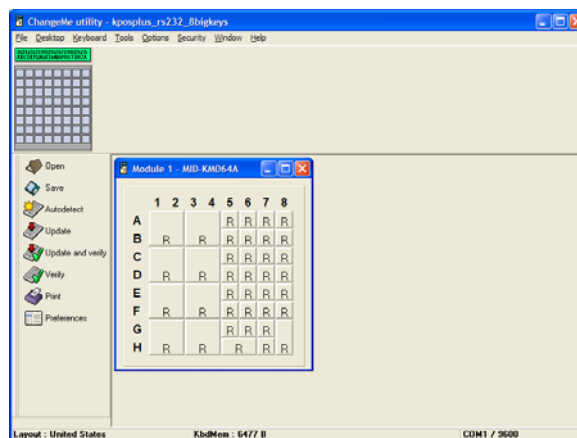

Figure 3-5
13. Click **OK**. Your screen will show the configuration of the mini POS keyboard as in Figure 3-5.
- 3) a mini POS keyboard layout with 8 large and 12 small product keys, a numeric keypad and function keys £, ENTER, DELETE, ESC, ▼ en ▲, CARD TO CASH and CASH TO CARD, as shown in Figure 3-2 and Figure 3-5;